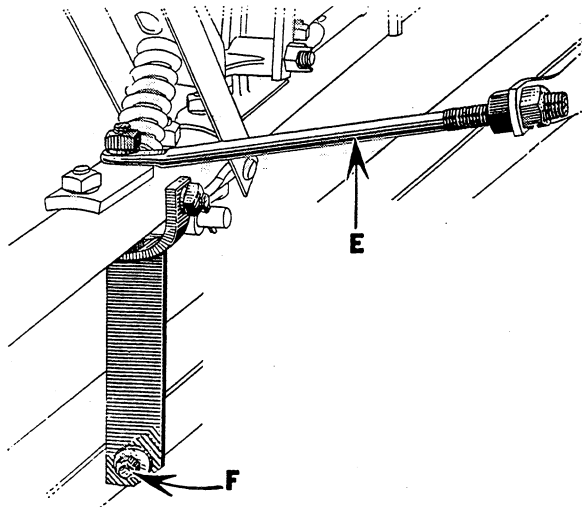

Figure 88
4. Use reel arms in upper elevator in same manner. Square and level upper elevator by means of the two adjustable supports "E" and "F," Figure 88.